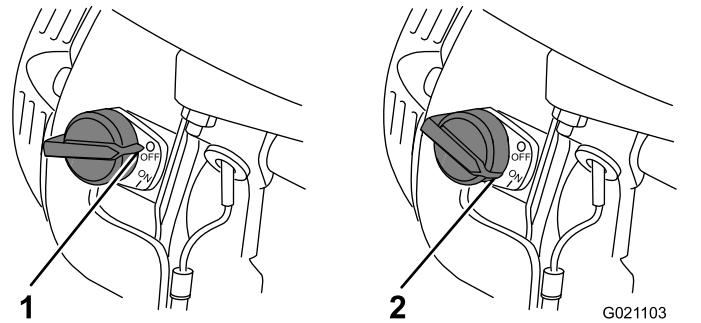

Figure 28
5. Move the engine switch to the ON position (Figure 28).